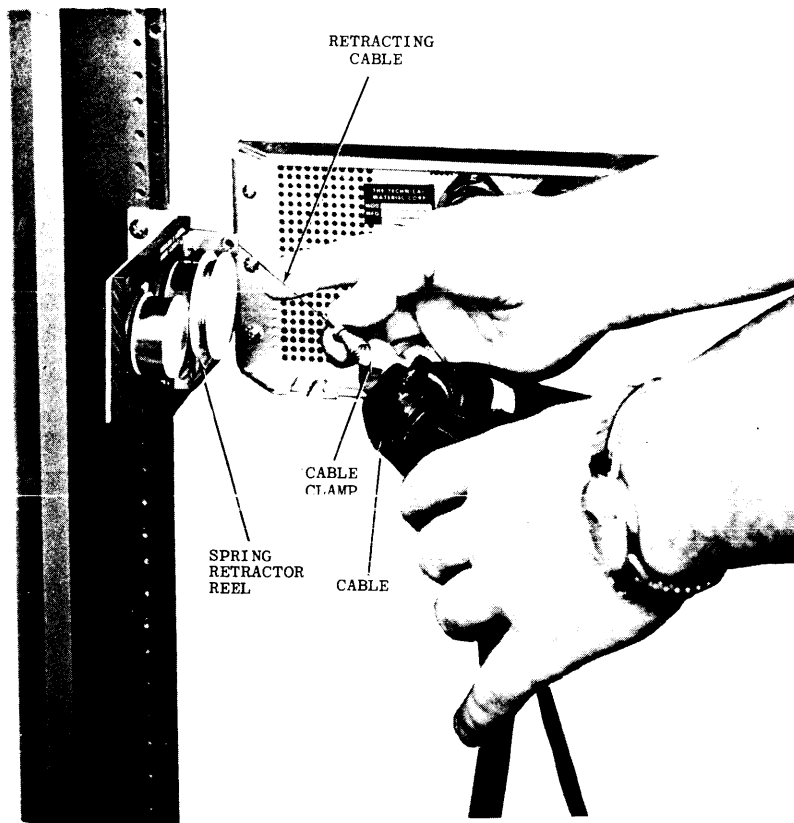

Figure 2-2. Attaching Cable Retractor
(2) Pull out center section of associated compartment slide track until it locks in an extended position.
(3) Position slide mechanisms of modular unit in tracks, and ease modular unit into rack until release buttons engage holes in track.
(4) Make the necessary cable and electrical connections as described in paragraph 2-3c. To prevent the cables extending from the modular units from snagging, utilize the reel-mounted clamps located inside the rear of the rack as shown in figure 2-2.